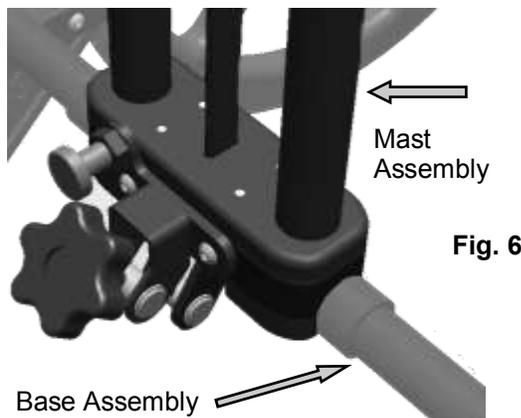

Fig. 6
5. Place mast assembly over locator pins on base assembly (fig 5). **Rotate locking pin until it engages into mast assembly. Make sure that the mast pin is fully engaged and holding the mast firmly to the base (fig 6).** If the mast lifts up from the base, twist the retaining pin again making sure that the pin fully engages into the mast assembly.